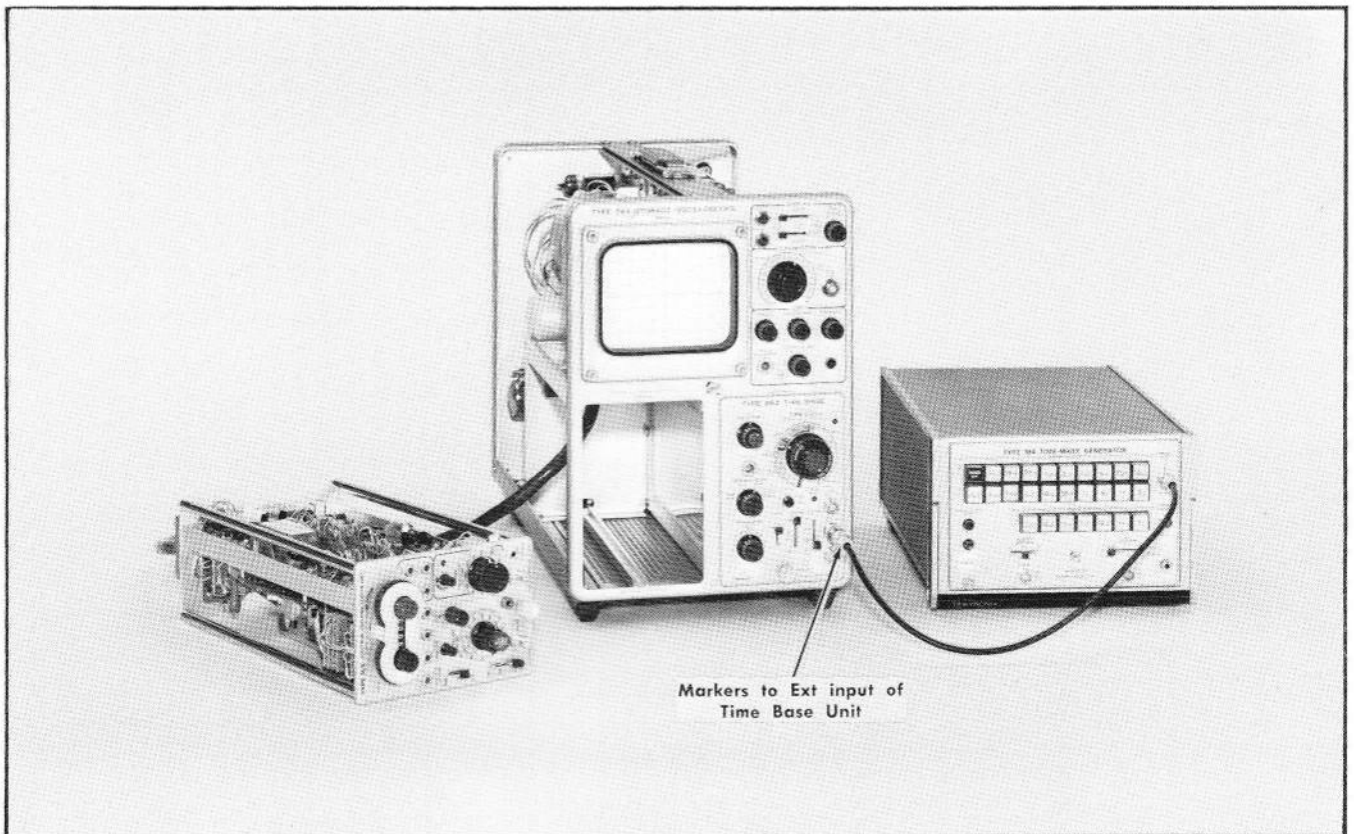

Fig. 6-21. Equipment setup for adjusting the 5 kHz calibrator.
a. Equipment setup is shown in Fig. 6-21.